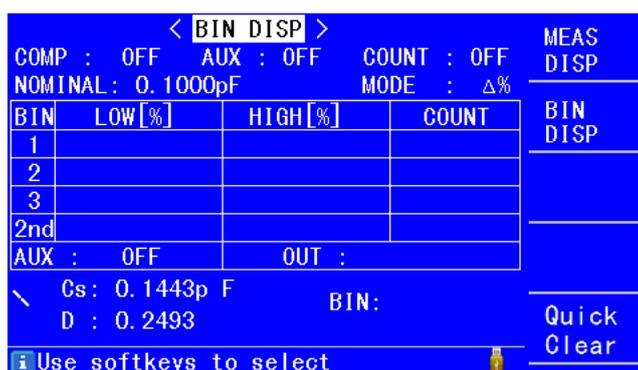

Figure 6-2 <BIN DISP> page
1. Press the "MEAS" button on the panel to enter the < MEAS DISP > page (as shown in Figure 6-1), and press "BIN DISP " softkey to enter < BIN DISP > page (as shown in Figure 6-2).